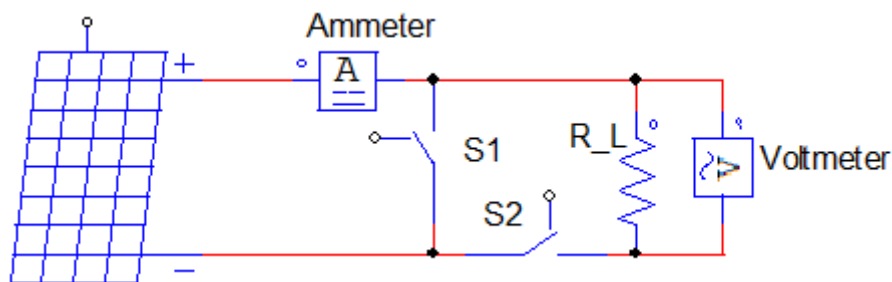

Fig 5: Complete experimental setup
1. Construct the circuit as shown in Figure 5.